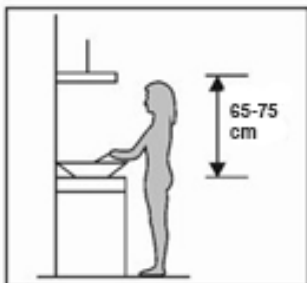

fig.2
- The minimum distance between the supporting surface for the cooking vessels on the hob and the lowest part of the cooker hood, when the cooker hood is located above a gas appliance, shall be at least 65 cm.(fig.2).